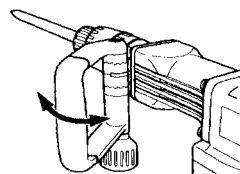
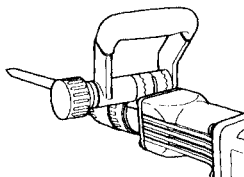
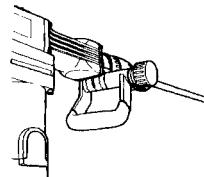

Fig. 7
Fig. 8
Fig. 9
- (2) Adjust it to a position where vertical (up-and-down) operation can be facilitated as illustrated in Fig. 7, Fig. 8, and Fig. 9.
- (3) Turn the grip in the direction of (B) and fix the handle.